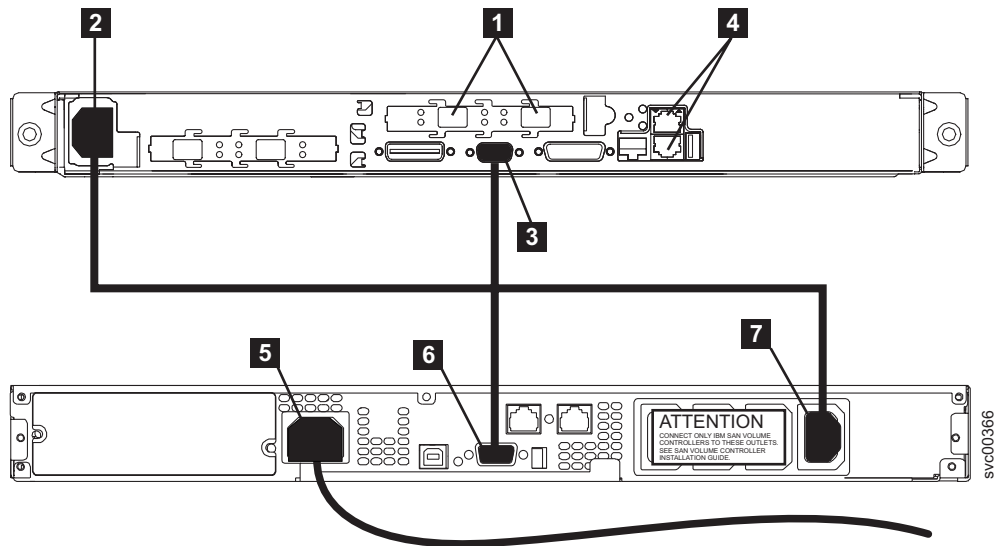

Figure 119. Connecting the SAN Volume Controller 2145-4F2 power cable to the 2145-1U uninterruptible power supply
1. At the back of the SAN Volume Controller 2145-4F2, plug the combined power and serial cable into the power connector (**2** in Figure 119).